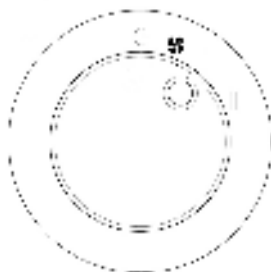

fig. 4
- To activate MINIMUM POWER function, turn knob "B" (fig. 1) so that reference mark " I " is aligned with the " I " symbol on the control panel (fig. 4).